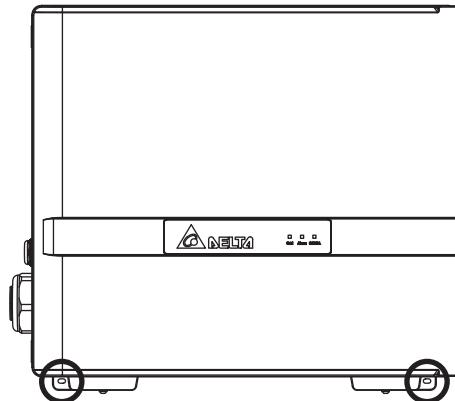

Figure 3-5: Positions of mounting screws
3. Secure the mounting bracket on the wall with 12 M6 screws. (**Figure 3-5**)
5. Secure the inverter by 2 M6 screws on the position\* shown as **Figure 3-5**.